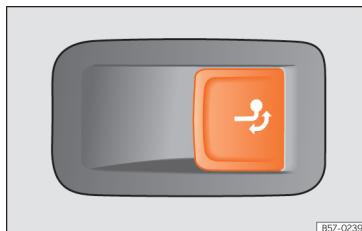

Fig. 179 Right side of the luggage compartment: button to unlock the tow hitch.
- Pull the >>> Fig. 179 button briefly. The tow hook unlocks electrically and automatically turns outwards. The button's control lamp flashes.
- Pull the >>> Fig. 179 button briefly. The tow hook unlocks electrically.
- Never press the button >>> Fig. 179 when there is a trailer hooked to the vehicle or when a carrier system or other accessories are mounted on the tow hook.